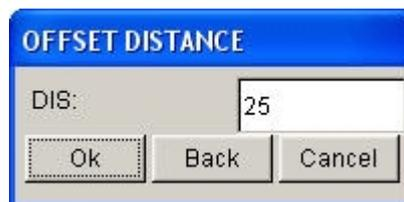

Figure 7.31 Offset distance dialog box
11. Type in **25** (mm) in the **OFFSET DISTANCE** dialog box illustrated in Figure 7.31.